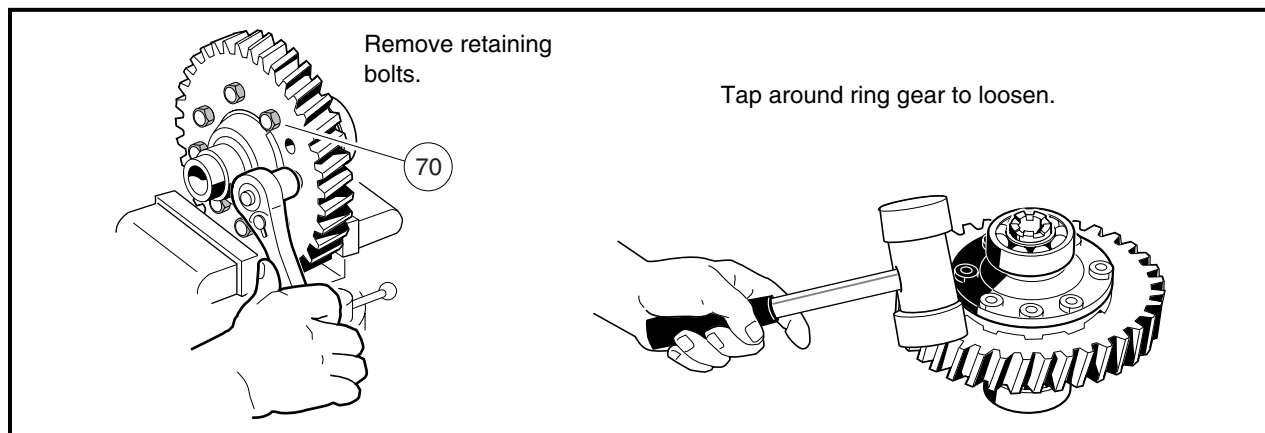

Figure 7-15 Remove Ring Gear
- 1.1. Remove eight ring gear retaining bolts (70) and remove the ring gear (71) from the assembly. It may be necessary to tap the ring gear off with a plastic or rubber mallet (**Figure 7-15, Page 7-8**). See following NOTE.
- 2.1. Remove eight ring gear retaining bolts (70) and remove the ring gear (86) from the assembly. It may be necessary to tap the ring gear off with a plastic or rubber mallet (**Figure 7-15, Page 7-8**). See following NOTE.